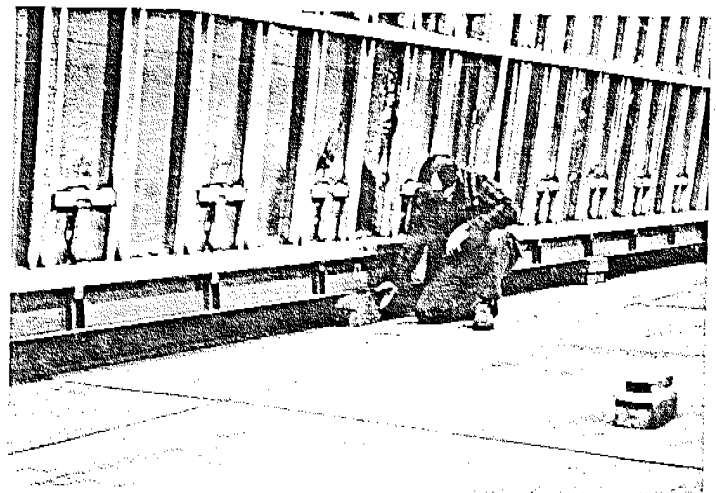

FIGURE 2
**NOTE:** Center blocking should be approximately  $\frac{1}{2}$ " higher than corner of trailer frame. (See Figure 2).